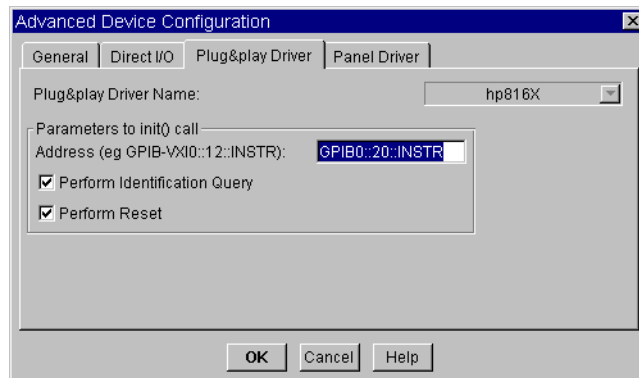

Figure 6 Advanced Device Configuration - Plug&play Driver
- 4 Press *Advanced I/O Config ...*, the *Advanced Device Configuration* box pops up. Select the *Plug&play Driver* tab, the box in Figure 6 appears.